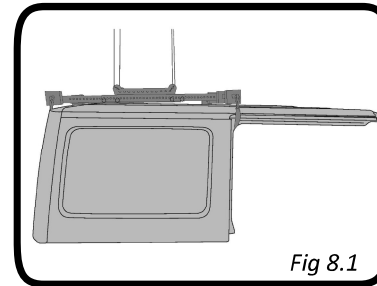

Fig 8.1
1. Unbolt the hard top from the vehicle and slowly lift it free. (Fig 8.1)